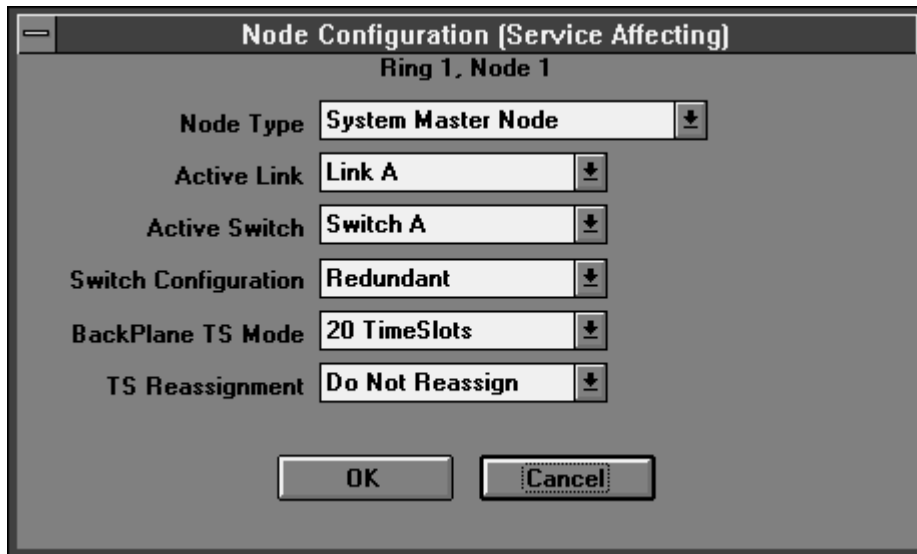

Figure 2-11. Node Configuration (Service Affecting)
2. Select Configure from the Tools menu or click on the Configure icon. The Node Configuration (Service Affecting) box appears (refer to Figure 2-11).